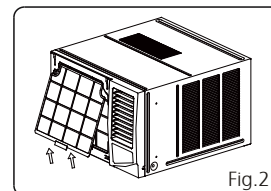

Fig.2
3. Grip the tab on the end of the filter, lift it up, then pull it towards yourself, pull the filter out (See Fig. 2)
1. Insert the air filter into the frame's slot from upside to underside. (See Fig. 2)